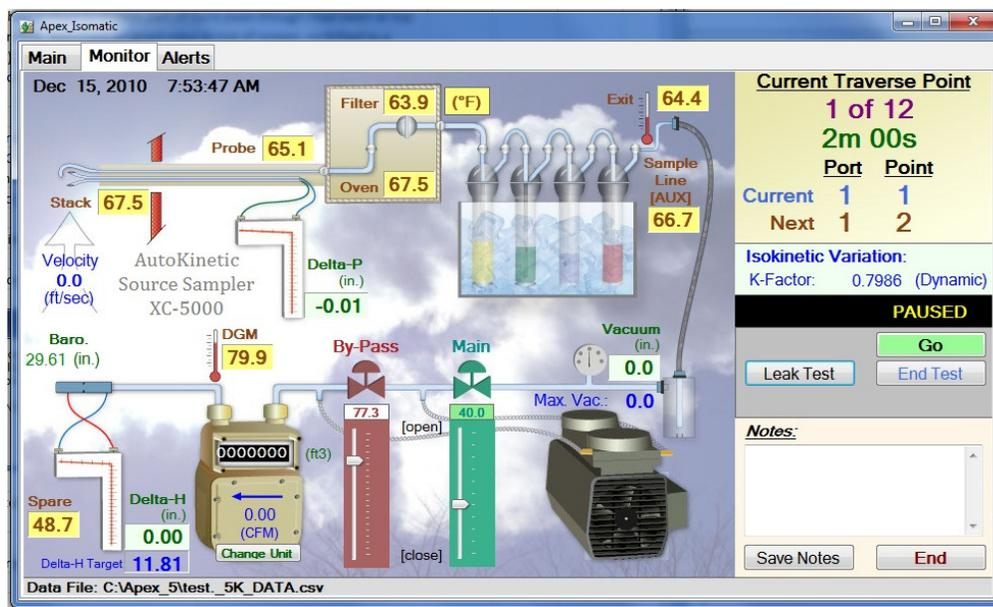

Figure 49 - Monitor Menu/Display Screen
- i) From the Main Menu, click on the button to open the Monitor menu screen. This screen is shown in Figure 49 , below.